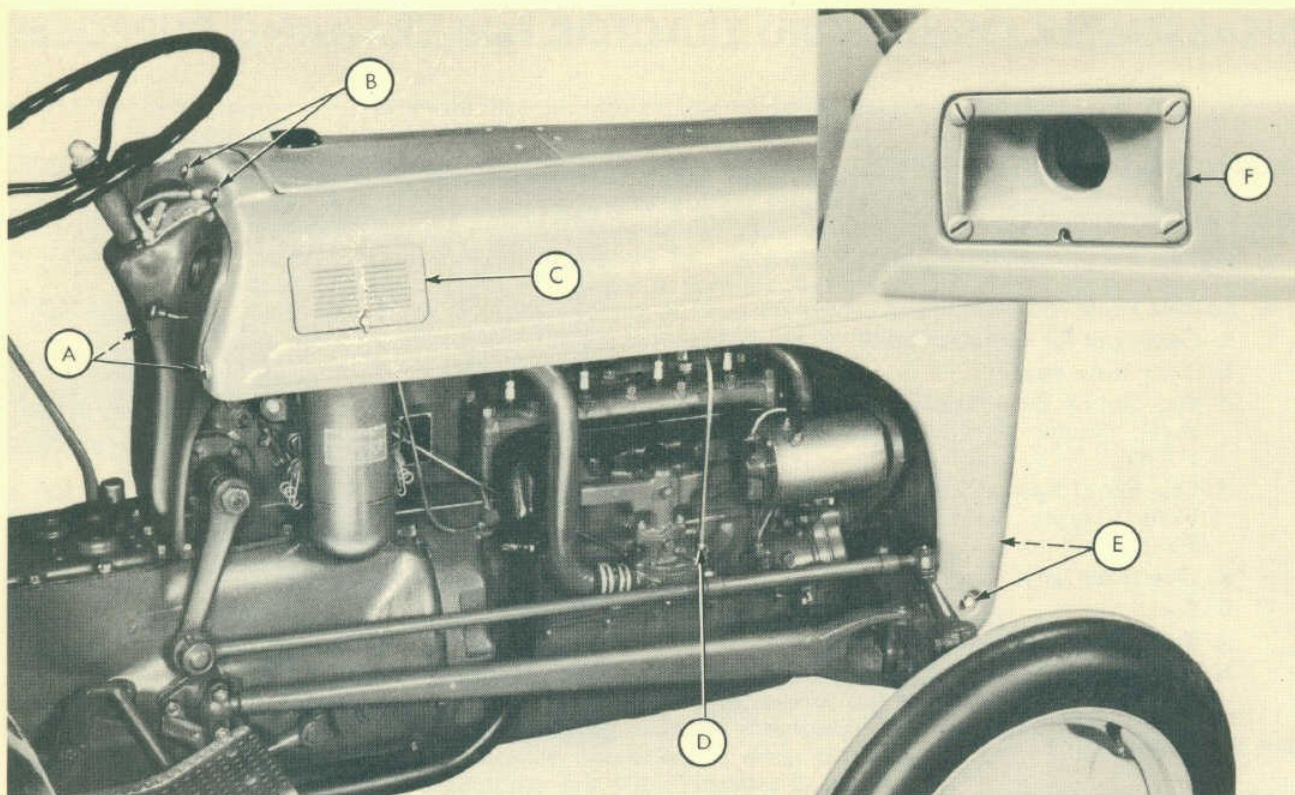

Fig. 3
- Step 2—Disconnect the fuel line from the carburetor at (D-Figure 3).
- Step 3—Remove the air intake screen (C-Figure 3) and the connection (F-Insert-Figure 3) from the hood.
- Step 4—Remove the two bolts (E-Figure 3) that hold the hood to the front axle support. (Right and left side.)
- Step 5—Remove the two cap screws (A-Figure 3) on the right and left side, and the two bolts (B-Figure 3) that hold the hood to the instrument panel.